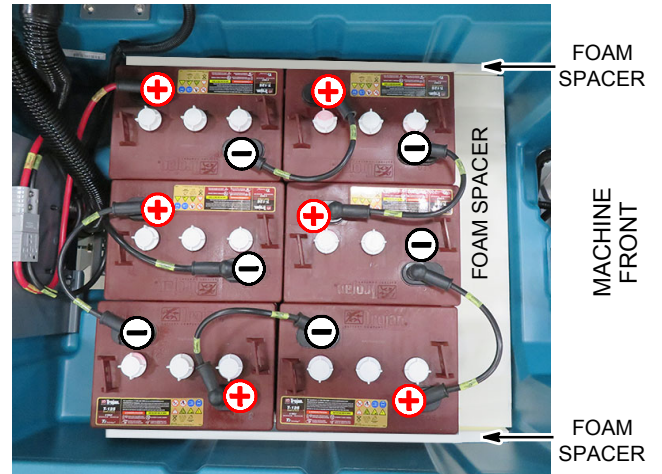

FIG. 2
2. Carefully install the batteries into the battery compartment tray and arrange the battery posts as shown (Figure 2). Insert foam spacers around batteries as shown.